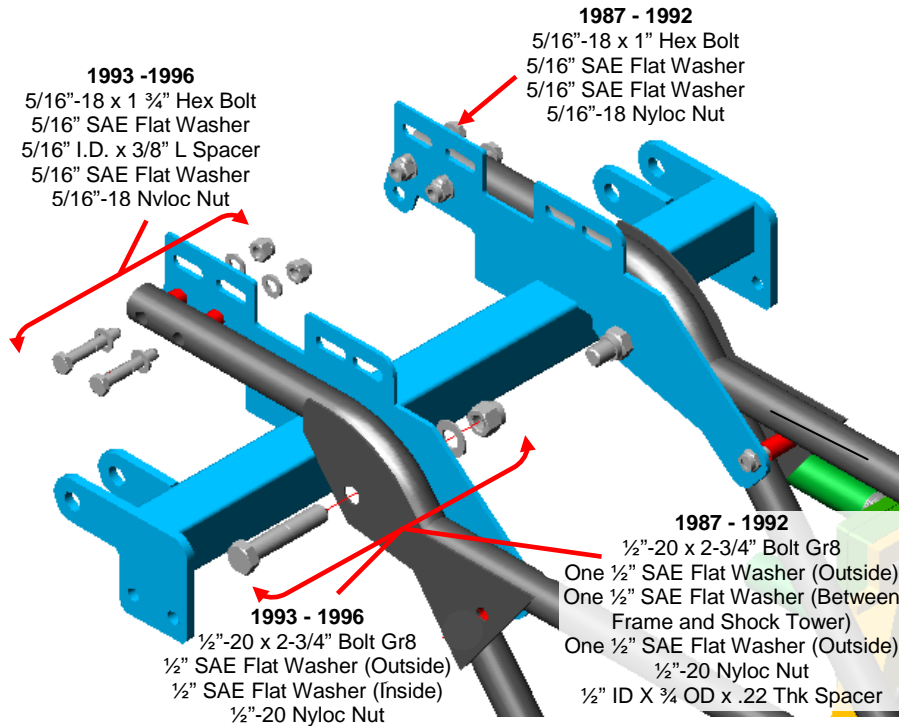

Figure 33
a. Install Shock Mount to vehicle frame. Use hardware as noted in illustration. Figure 33